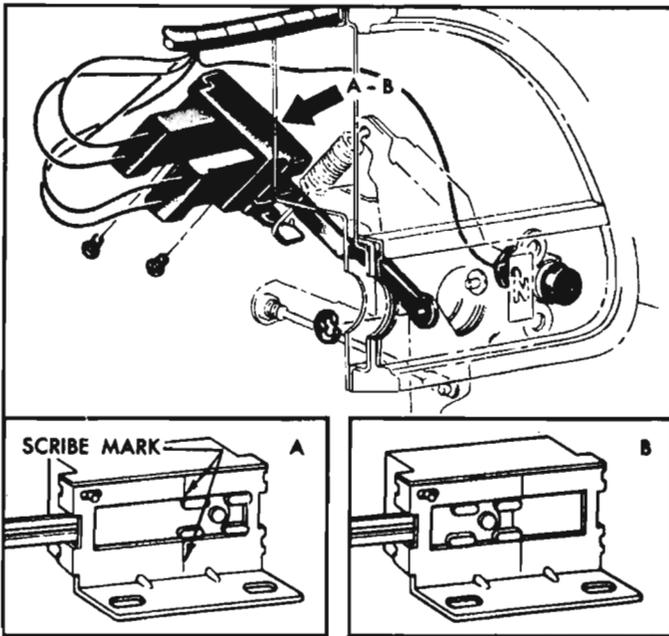

Fig. 8-110—Neutral Safety Switch Installation
1. Remove the retainer from pin on the transmission range selector assembly (fig. 8-110).
back (open end) of the contact block (A—Fig. 8-110). Then pull nylon contact block out until front of contact block lines up with the scribe mark (B—Fig. 8-110).